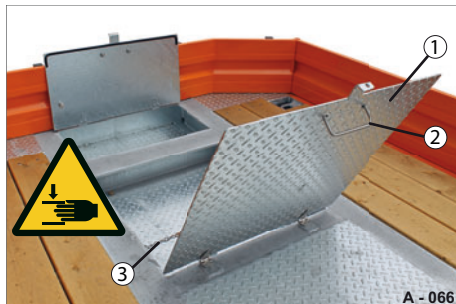

Fig. 65 Storage compartments, two-fold, open
- Stand to the side of the lid (Fig. 65/1).